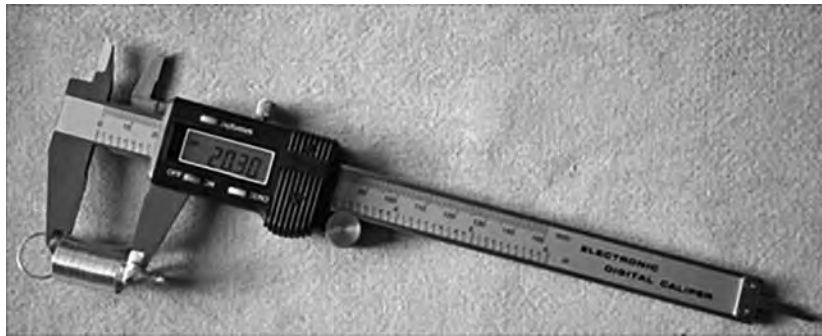

Figure 10
- 3 A student uses a digital calliper to measure the length of a spring, as shown in Figure 10.